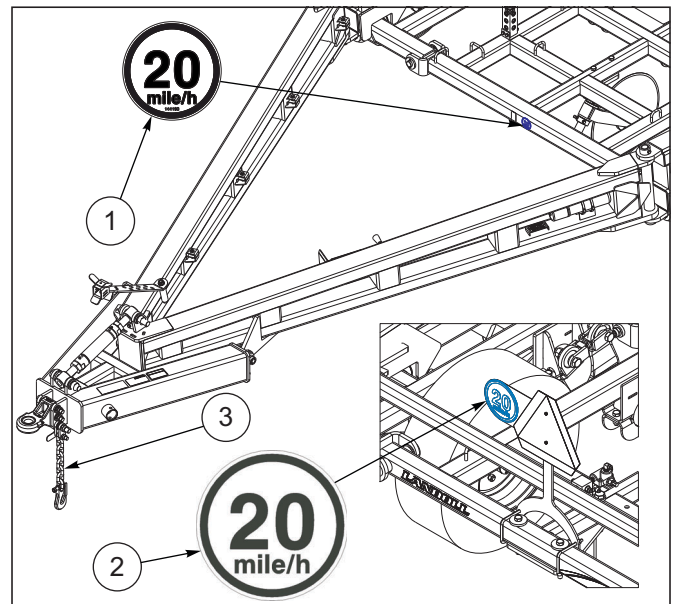

Figure 4-22: Hitch, Speed Identification Symbol, and Safety Chain
2. The Blade Plow should be transported only by tractor required for field operation. The implement weight should not exceed more than 1.5 times the tractor weight. Maximum transport speed for the Blade Plow is 20 mph for the implement and is designated on the speed identification symbol (1) located on the front and rear (2) of the implement (See Figure 4-22.)
3. A safety chain (3) is provided with the implement to insure safe transport.
- b. Attach the safety chain to the tractor drawbar See Figure 4-22. Provide only enough slack in the chain for turning. Do not use an intermediate chain support as the attaching point for the chain on the tractor. Do not pull the implement by the safety chain.